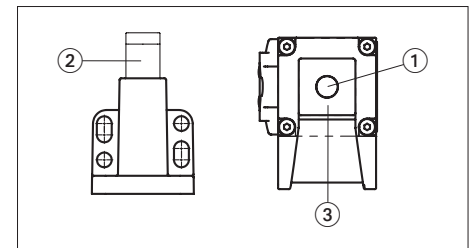

Fig. 1: Read head and actuator
The read head contains a plunger (1) that lifts the actuator over the recess during release (see Fig. 1). The actuator has a spring-mounted guard locking pin (2) in which there is a transponder. Guard locking is active when the plunger is retracted and the guard locking pin is in the recess (3) of the read head.